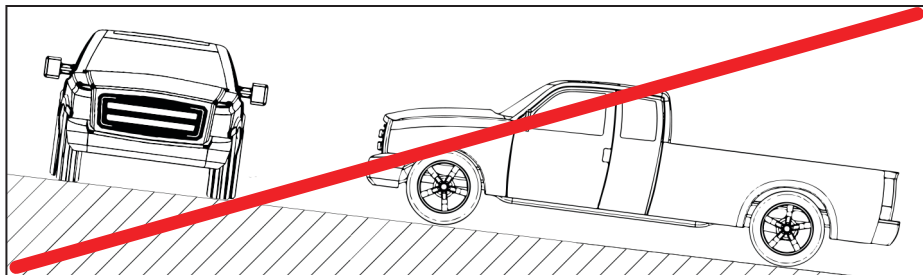

Figure 13 — Do not exceed 15° grade
- Ensure the vehicle is not parked on grades exceeding 15° as this will affect lubrication and air/oil separation (Figure 13).